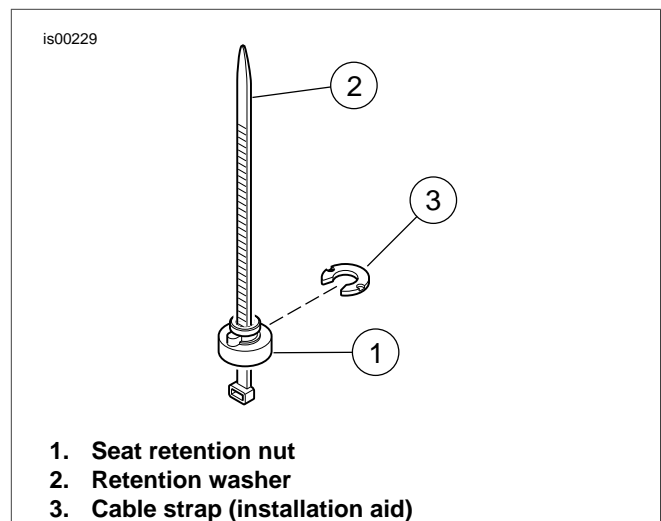

Figure 2. Retention Nut Installation
1. See Figure 2. A cable strap may be used as an installation aid to remove and install the retention nut and washer. Place the retention nut (1) over the cable strap (3) so the